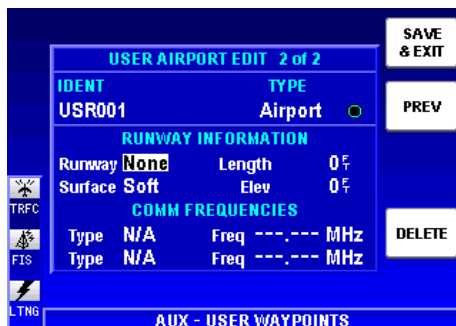

Figure 1-83
3. Press the **NEXT** Softkey to display **USER AIRPORT 2 of 2** as shown in Figure 1-83. The cursor will be initially be placed in **Runway** orientation field and the default will be **None**.